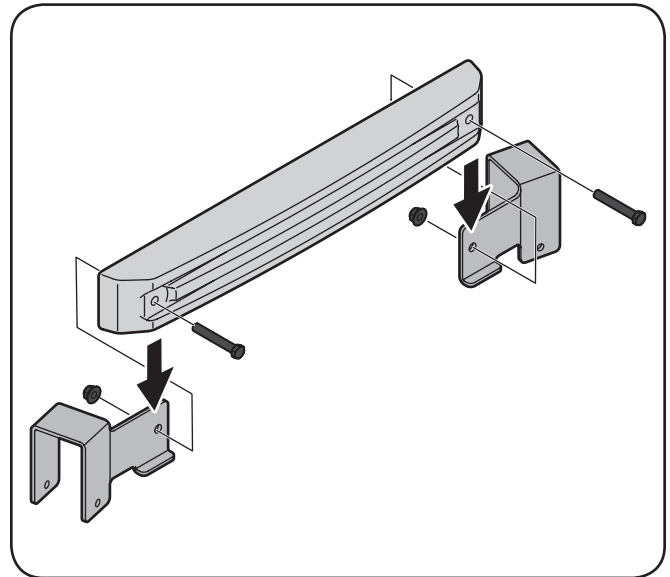

Figure 4-26
1. Attach the left mounting bracket and the right mounting bracket to the weight bar using two 2½-inch screws (710-0859), and ⅜-inch flange nuts (712-04065) from hardware pack 689-00325. See Figure 4-26.